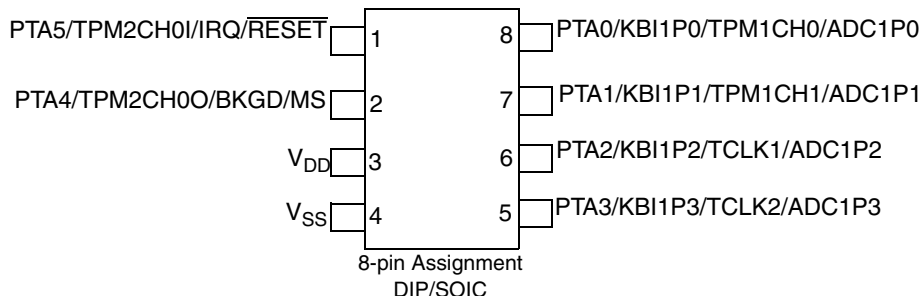
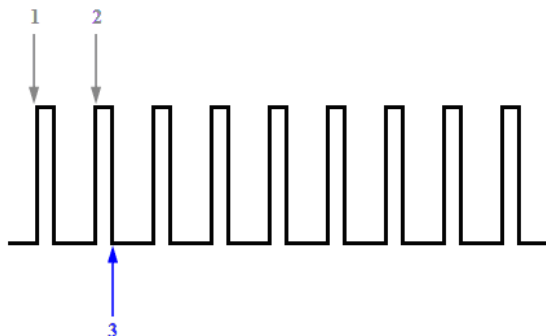

Figure 7. MC9S08QD4 8-Pin Package
Figure 8. Input Signal Data Measurements
The code can take samples of the duty cycle and determine the percentage of the duty. As shown in Figure 7, PTA5 can be used with the TPM module configured as input capture. In this mode, the TPM2CH0I detects in rising-edge and falling-edge of all the changes of the input signal (Figure 8). These changes are stored as variables and then are calculated to produce the duty cycle. For details see the MC9S08QD4 Data Sheet.
2. Check Mode — This mode calculates the duty cycle of the input signal. The status of this routine is determined by monitoring the Check variable. Avoid using a previously calculated duty cycle. Interrupts are disabled and the TPM2CH0I is configured as input capture with a rising edge. When the code detects the first rising edge it waits for the second rising edge. See Figure 8. After the first rising edge is detected, the TPM2 counter begins counting. When the second rising edge is detected the counter stops and the value is read. The Frequency variable is stored and the counter is reset to zero. Counting then begins again. Next, the TPM2CH0I is configured as input capture and falling edge while waiting for the third point. See Figure 8. When the third point is detected, the counter stops. This value is read and then stored in Duty_Cycle_H variable.